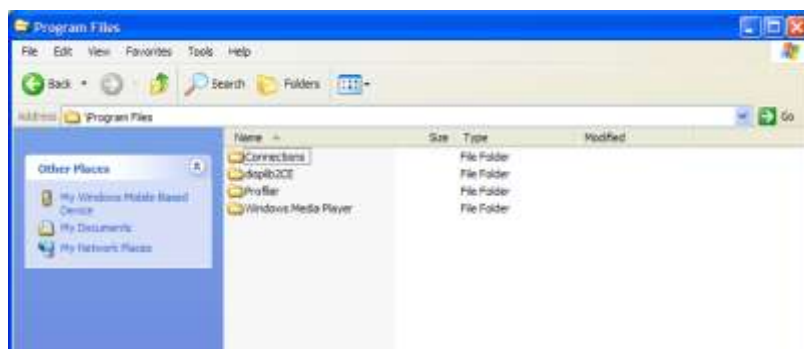

Figure 32: Profiler Program folder.
6. The user should now select the **Program Files** folder. This will allow access to the Profiler Program folder (Figure 32).